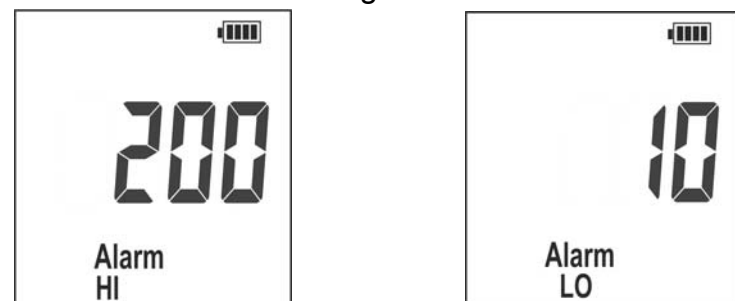

Fig. 11: HIGH and LOW alarm function activation
17. Press the **J** key to confirm the HIGH threshold setting and go on to the LOW threshold (see Fig. 11 – right side).